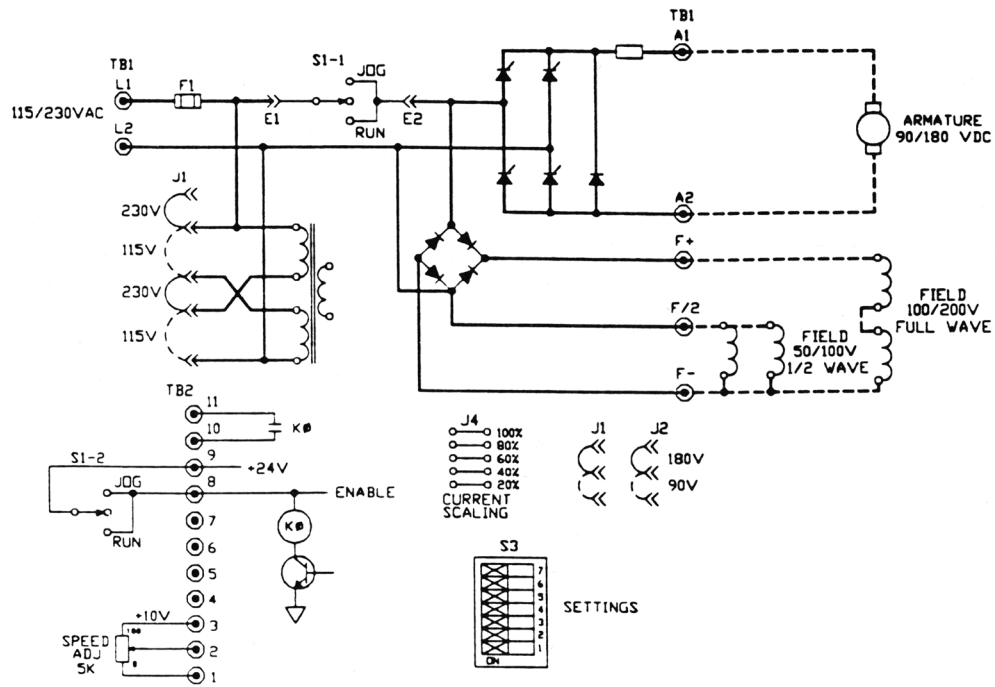
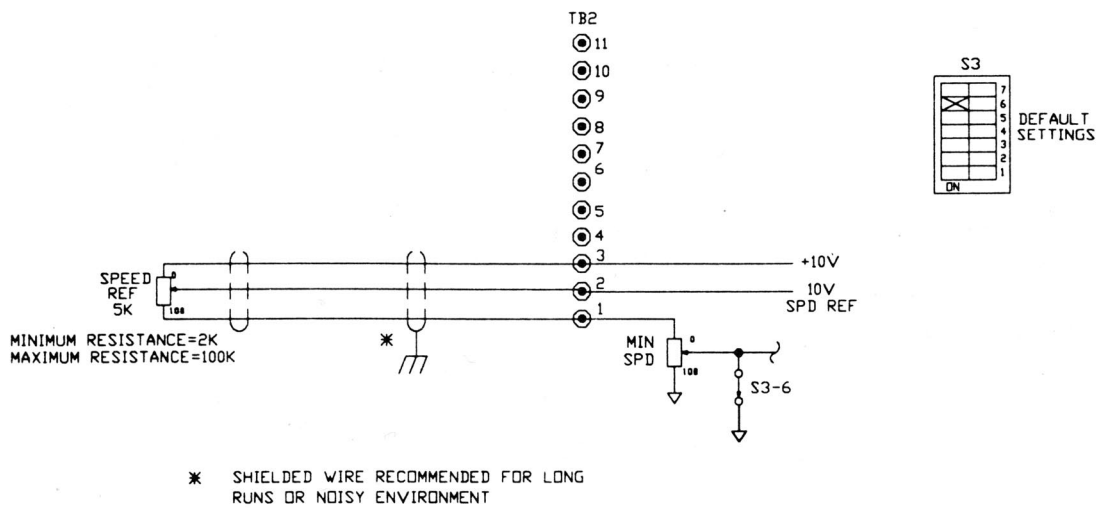

FIGURE 3. LOGIC CONNECTION DIAGRAM, RUN-STOP-JOG SWITCH, 1/6 - 2 HP
FIGURE 9. SIGNAL CONNECTION DIAGRAM, MOTOR SPEED POTENTIOMETER
10. If remote operator control wiring and/or signal wiring is required, connect the controller as shown in the appropriate connection diagram (Figures 3 through 16). Figures 3 through 8 show operator control connections, and Figures 9 through 16 show signal connections.